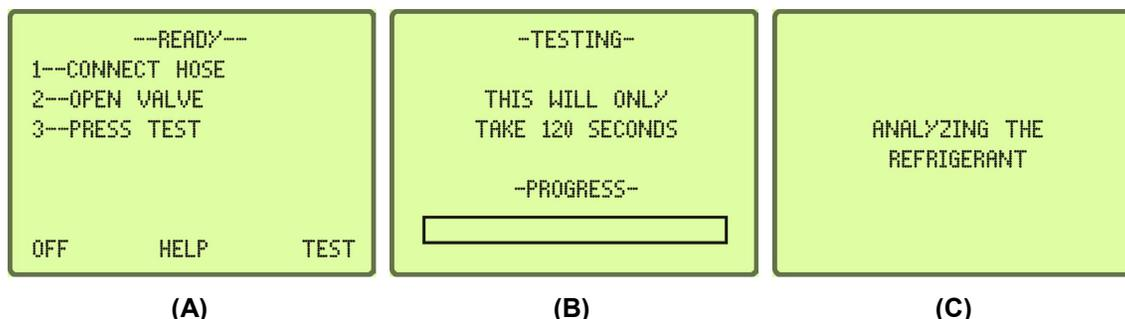

Figure 4-3. Sample Gas Testing Screens
When the unit has completed a successful Air Calibration, the analyzer is then ready for gas testing. The unit will display the screen shown in Figure 4-3 A. Determine if you are Vapor Sampling or Liquid Sampling and make sure the proper hose assembly is connected to complete your required form of testing. Section 4.4 Vapor Sampling and section 4.5 Liquid Sampling outline proper procedure for both forms of testing.
Connect the hose to the tank or system, open the valve if connecting to a tank, and then press 'TEST'. The Pur•Chek[™] Pro will display the screen shown in Figure 4-3 B. Before the test is completed the screen in Figure 4-3 C will appear to indicate the test is nearly complete
2. Open the low side valve of the cylinder and press TEST (see Figure 4-3 A).
5. Press “Test” on the analyzer (see Figure 4-3 A).
Upon completion of the test, the Pur•Chek™ Pro will display a screen similar to that shown in Figure 4-4 A. Pressing the MORE button will display the screen shown in Figure 4-4 B. Once you have completed your test, press ‘DONE’ to return back to the ‘READY’ screen Figure 4-3 A or refer to section 4.11 Printing the Test Results and Channel Data on page 13.